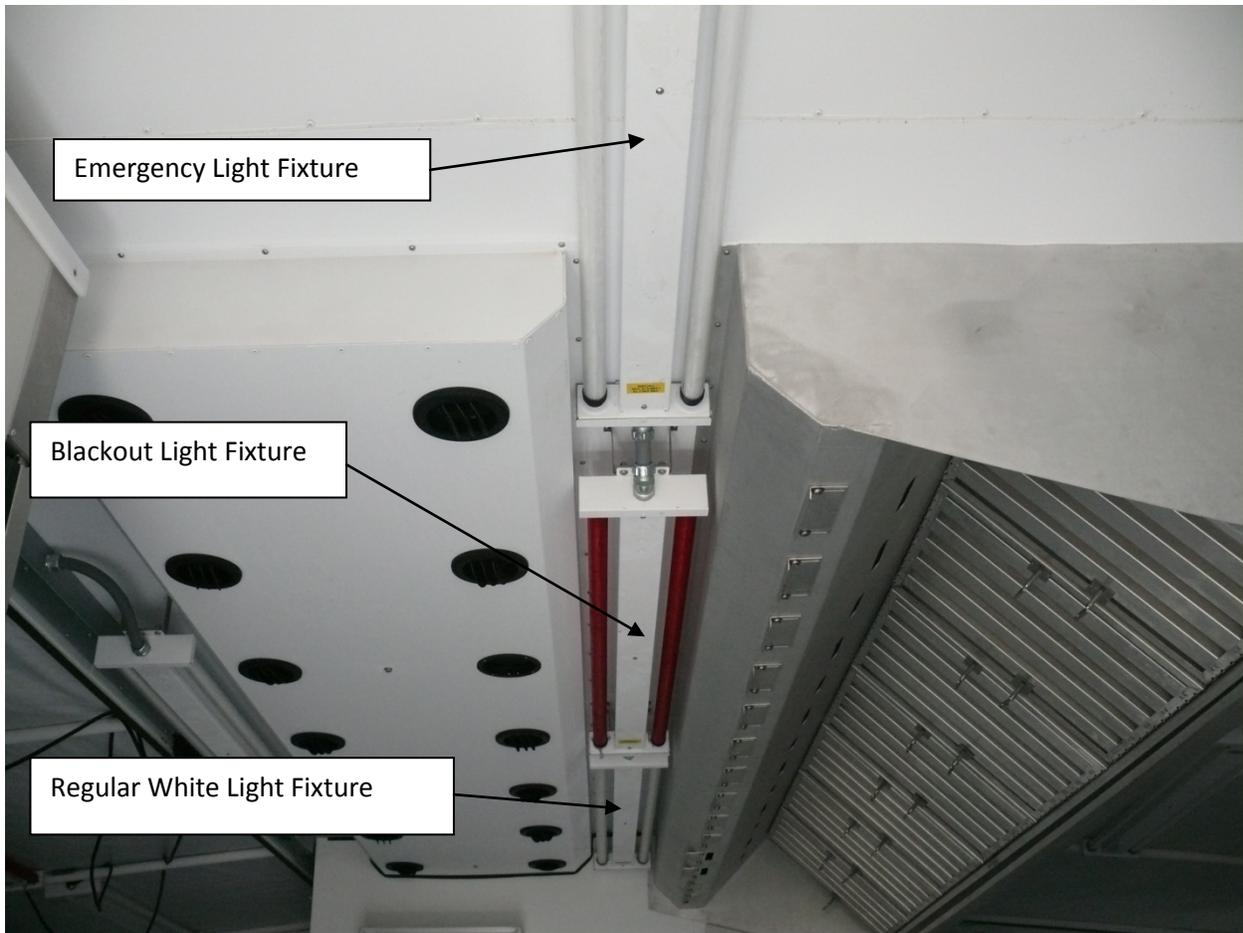

Figure 1: Position of emergency light, blackout light, and regular white light fixtures.
NOTE: Not all Containerized kitchens will require this modification. To make this determination, see figure 3 which shows the completed modification. If your emergency light is mounted directly to the ceiling as in figure 3, your CK has been modified and no further action is required. See Figure 1 for the location of the emergency light.
2. Open the wiring compartment to the three hard mounted light fixtures along the center of the CK shown in figure 1 to gain access to the wiring.
3. Identify, mark, and disconnect the black (supply) wires for the blackout and regular light transformer leads. See figure 1 for the location of the blackout and regular light fixtures.